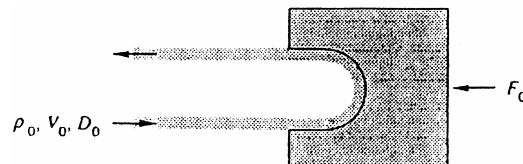

Fig. P3.41
3.41 In Fig. P3.41 the vane turns the water jet completely around. Find the maximum jet velocity V_0 for a force F_0 .